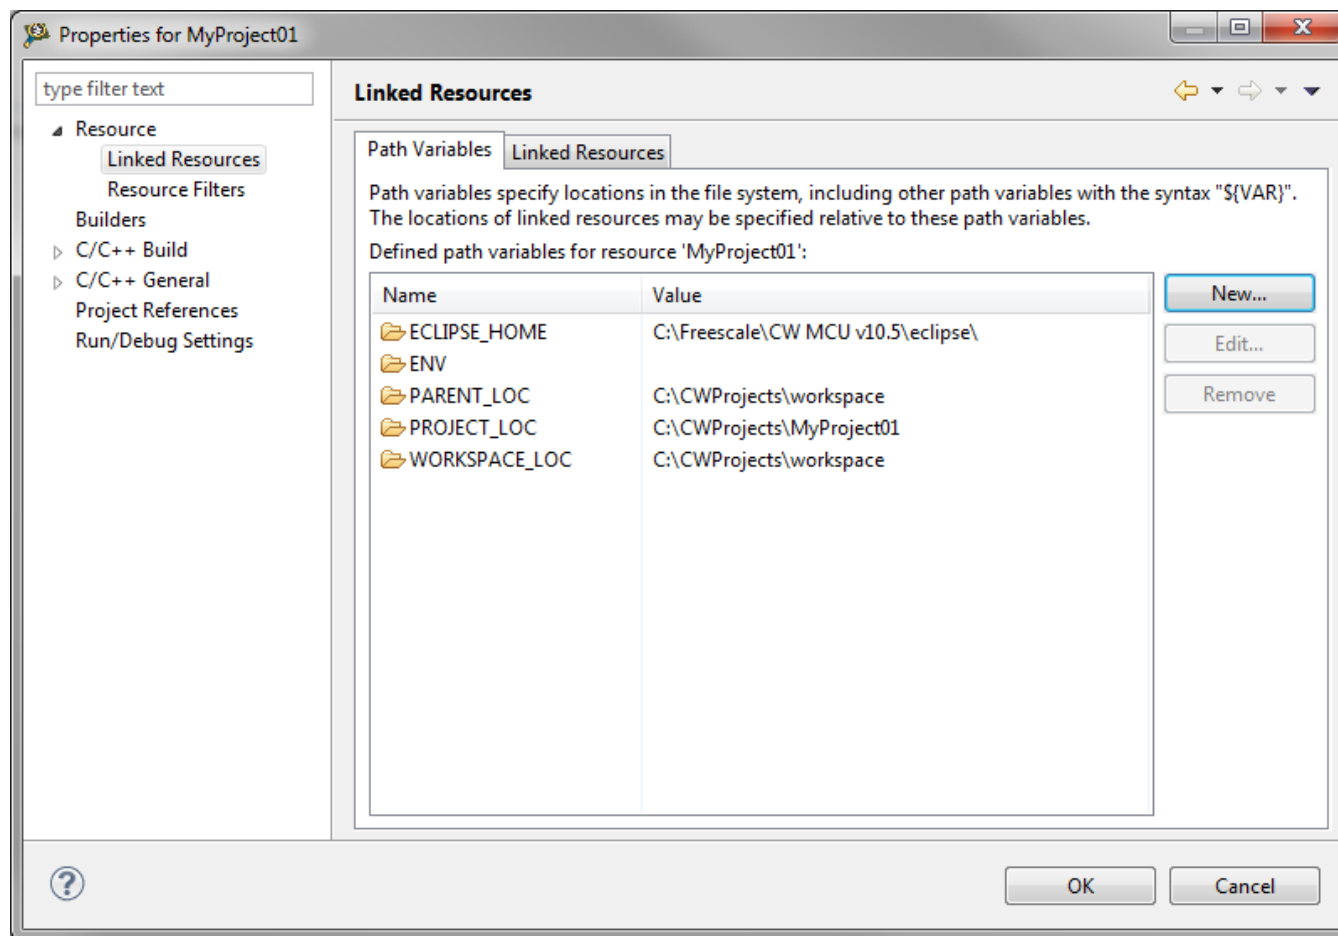

Figure 1-6. Project properties
2. Expand the Resource node and click Linked Resources. See Figure 1-6.